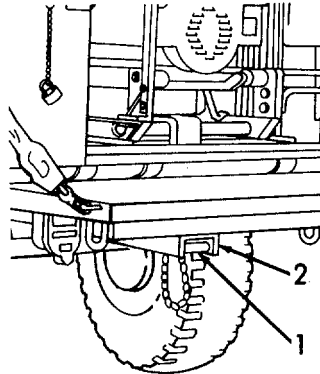

Figure 2-70. Lowering the Rear Support Leg.
j. Raising the Rear Support Leg (Refer to Figure 2-70).
- (1) Screw in the base plate on the leg (1).
- (2) Raise the support leg (1) while pushing on the lever (2).